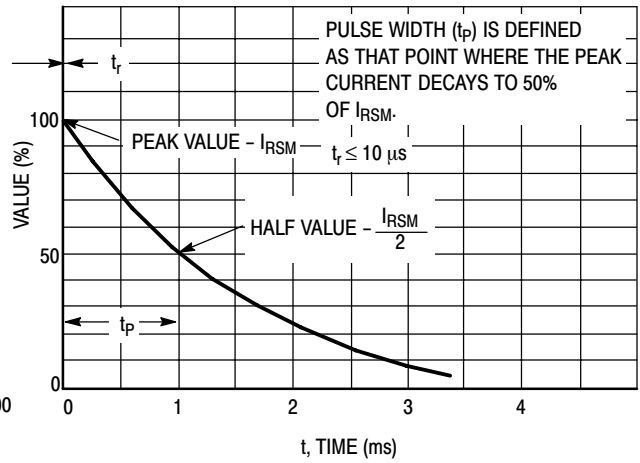
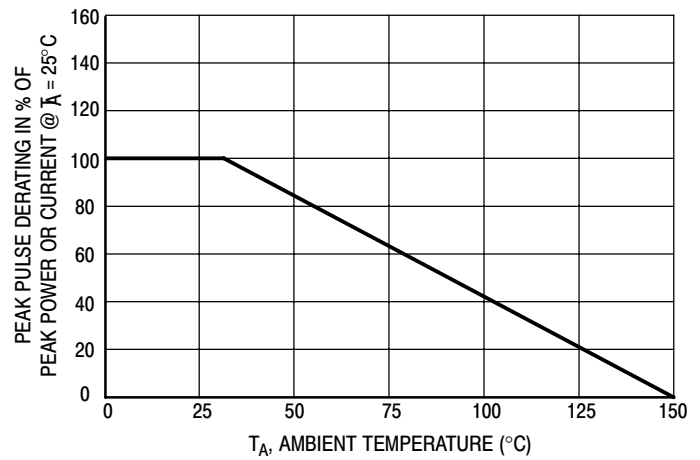

Figure 2. 10 X 1000  $\mu s$  Pulse Waveform
Figure 4. Pulse Derating Curve
7. Surge current waveform per Figure 2 and derate per Figure 4.